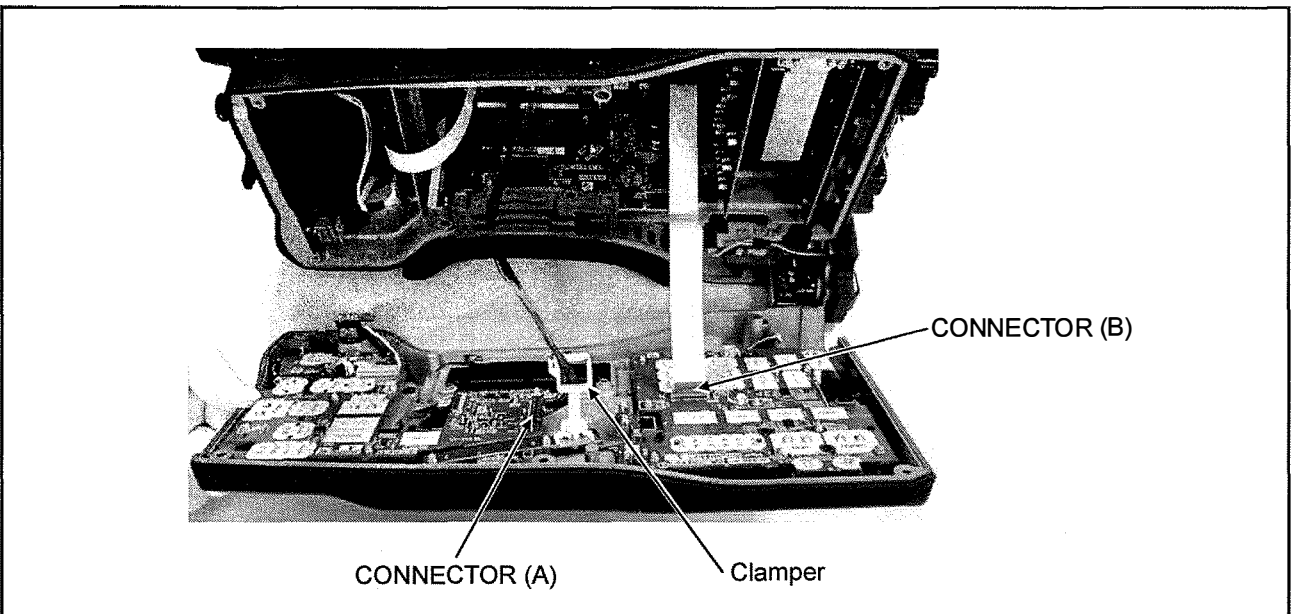

Figure 3-2
2. Removes the wires from the clamber as shown in figure 3-2.
3. Disconnect the connector (A) and (B) as shown in figure 3-2, and remove the SIDE CASE R S Unit.